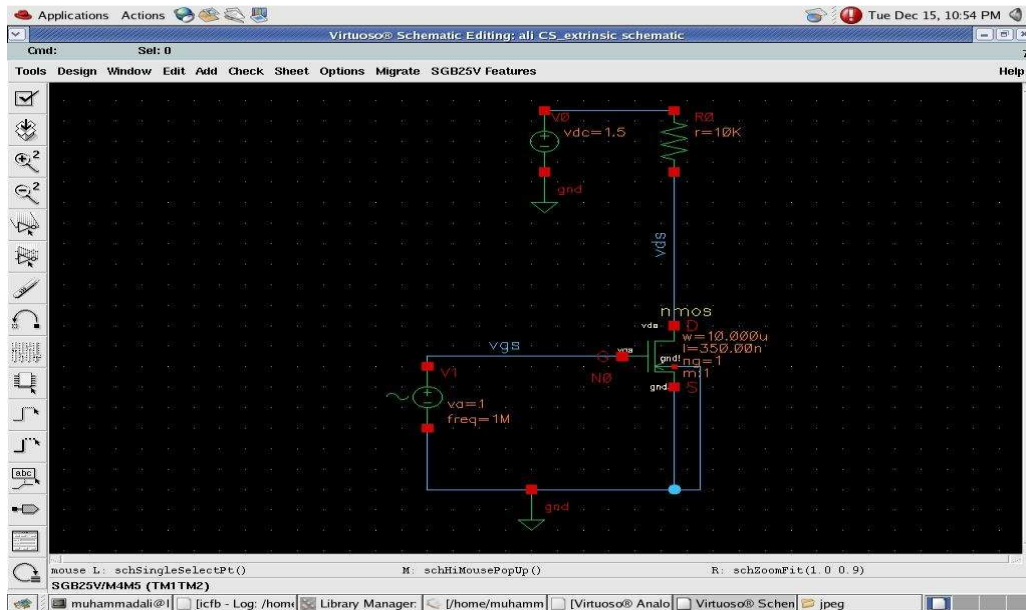

Fig.14: Circuit for doing the transient analysis
1. Replace a constant dc source with a time domain sinusoidal input source having a specific amplitude and frequency as shown in Fig.14. For that press 'i', browse to the AnalogLib, select 'vsin' and put it there in the schematic window.